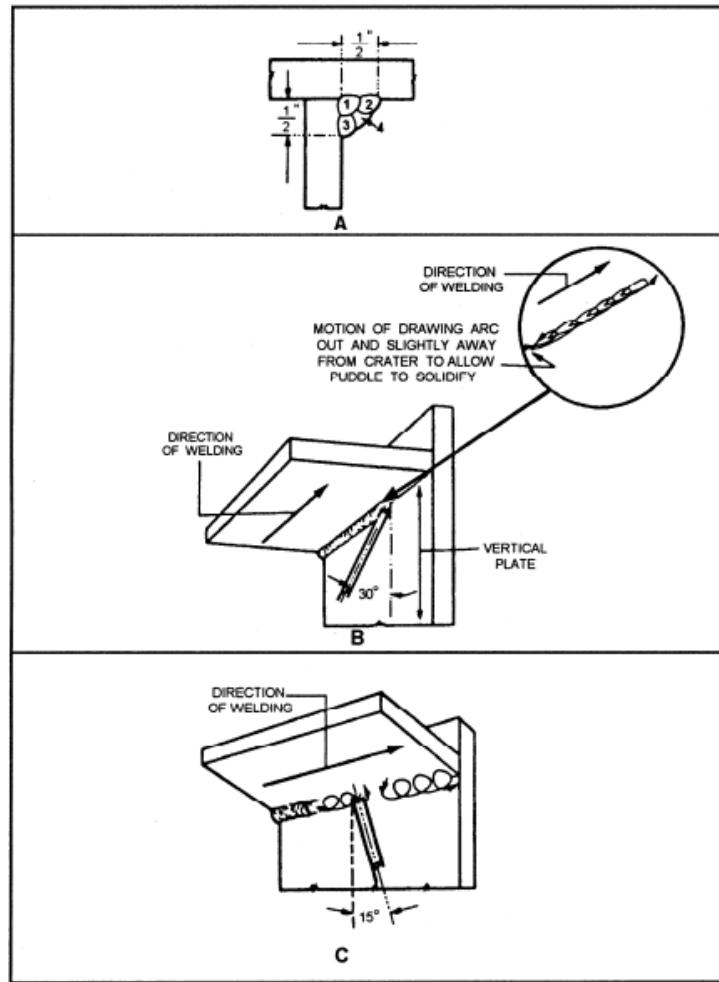

Figure 7-41.—Fillet welding in the overhead position.
**FILLET WELDS.**— In making fillet welds in either tee or lap joints in the overhead position, maintain a short arc and refrain from weaving of the electrode. Hold the electrode at approximately 30 degrees to the vertical plate and move it uniformly in the direction of welding, as shown in figure 7-41, view B. Control the arc motion to secure good penetration in the root of the weld and good fusion with the sidewalls of the vertical and horizontal plates. When the molten metal becomes too fluid and tends to sag, whip the electrode quickly away from the crater and ahead of the weld to lengthen the arc and allow the metal to solidify. Immediately return the electrode to the crater and continue welding.
Overhead fillet welds for either tee or lap joints on heavy plate require several passes or beads to complete the joint. One example of an order of bead deposition is shown in figure 7-41, view A. The root pass is a string bead made with no weaving motion of the electrode. Tilt the electrode about 15 degrees in the direction of welding, as shown in figure 7-41, view C, and with a slight circular motion make the second, third, and fourth passes. This motion of the electrode permits greater control and better distribution of the weld metal. Remove all slag and oxides from the surface of each pass by chipping or wire brushing before applying additional beads to the joint.